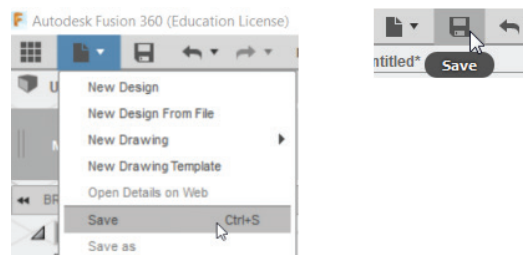
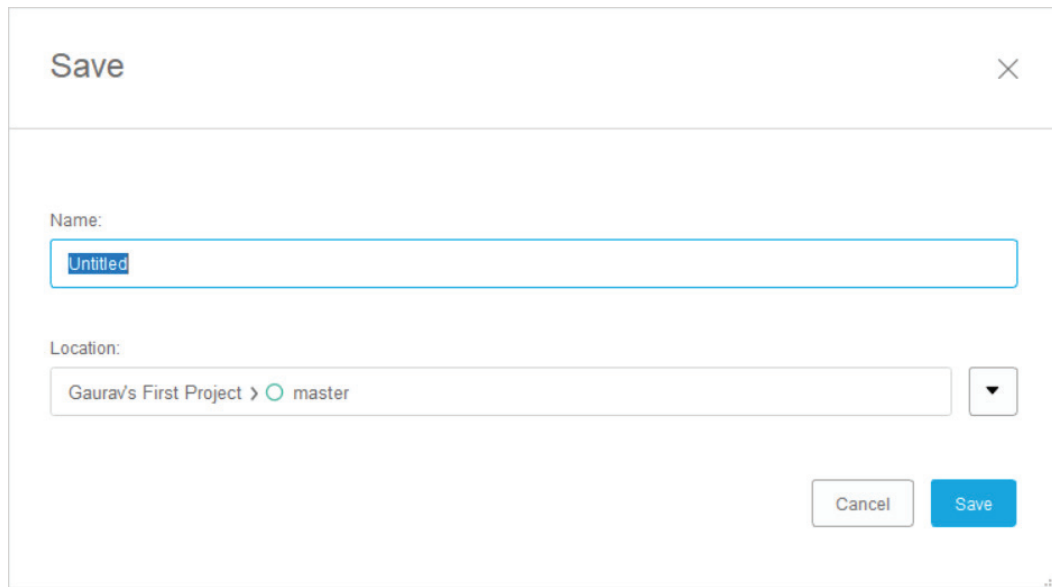

Figure-13. Save tool
Figure-14. Save dialog box
- Click on the **Save** tool from **File** menu or select the **Save** button from application bar as shown in Figure-13. The **Save** dialog box will be displayed asking you to specify the **Name** and **Location** of your file; refer to Figure-14.